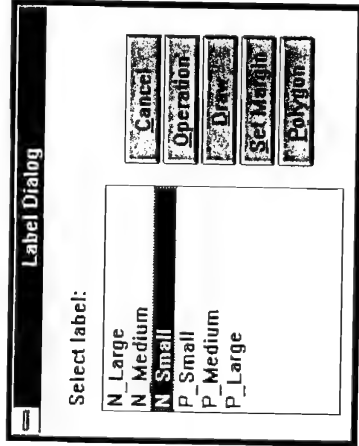
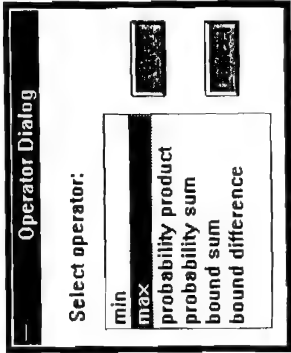

Figure 4-8 Tracer/Label Dialog Box
Figure 4-11 Tracer/Operator Dialog Box
There are several ways to modify your membership functions. The first step is to press the modify button at the upper left corner of the window. Doing so brings up the Label Dialog box as shown Figure 4-8.
Tracer supports one further tool for membership function editing. You may perform standard operations on existing membership functions to produce a resultant membership function. Press the Operation button of the Label Dialog box as shown in Figure 4-8 above to initiate an operation. An Operator Dialog box comes up as shown in Figure 4-11.
2. An Operand 1 dialog box similar to that shown in Figure 4-11 above appears. Click on a label name to select it as operand 1. Press the OK button to choose the membership function highlighted by the label name.